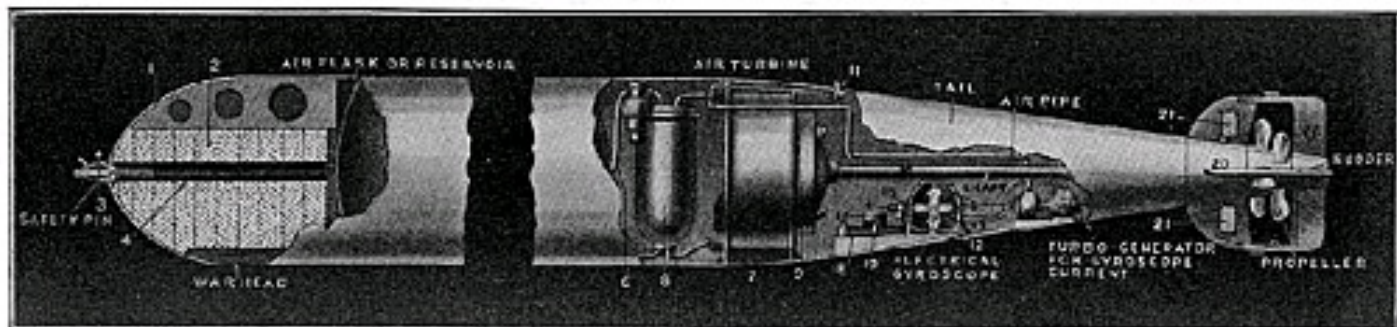

Fig. 1. Semi-Sectional View of Latest Type Automobile Torpedo.
This self-propelling demon is shown at Fig. 1 with its clever device for steering and diving. It measures 22 feet long and 21 inches in diameter, with a weight of one ton. This modern fighting
The "war-head" (1), Fig. 1, differs from the "practice-head" and is used only in actual fighting. It is loaded with a charge of gun cotton (2) containing 25 per cent. moisture. At 4 is the detonating charge, which is fired by the plunger or striking rod 3. A safety pin is provided at the end of the plunger, as depicted, this being used for safety when loading the torpedo in the firing tube.
The central flask or air reservoir 6 (Fig. 1) is connected to the turbine through the superheater 8. This turbine is connected to a reducer gear 9 and then to the propeller shaft 10 which operates the two propellers 22, 22. These are rotated in opposite directions. The power developed by the turbine is 110 horsepower and the shaft runs at 1,200 R.P.M., enabling the missile to travel at the rate of 35 to 40 knots, with an extreme range of 10,000 yards.